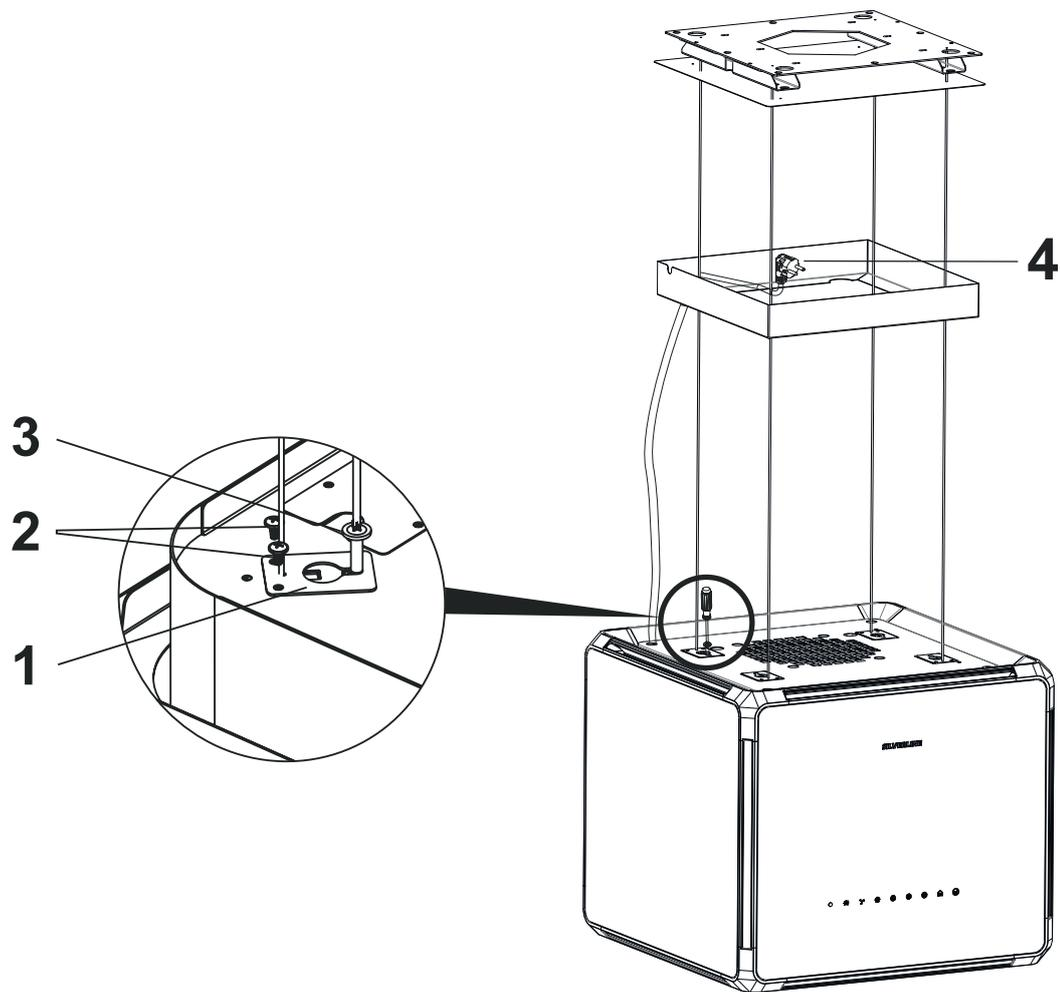

Fig. 15
- 1.** → Assemble 4 ceiling hanger locking mechanisms (1) on the body with 3.5 x 9.5 screws (2) and M5 x 15 screws (3) (Fig. 15)
- 2.** → Pass the supply cable (4) through the supply cable passage (Fig. 15/5) in the ceiling suspension plate and make the electrical connection. Close the ceiling hanger plate cover.